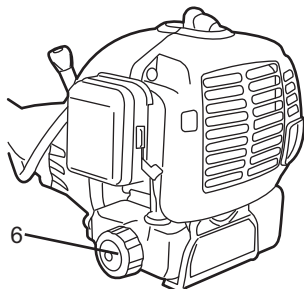

Fig.5b
- > Wipe up spilled fuel with a soft cloth and refit the fuel tank cap (6). Tighten the cap properly (Fig. 5b).